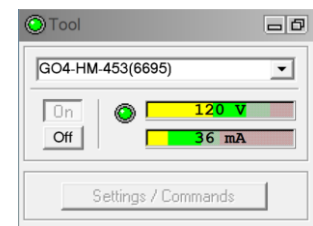

Figure 4-1 Tool panel
2. Select the relevant QL40-HM-453 tool stack from the drop down list (**Figure 4-1**) in the Tool panel (if your tool stack is not listed, check that your tool configuration file is stored in the designated folder on your computer or create a new file using the Tool Stack Factory).
3. In the **Tool** panel switch on the tool (click **On** button). Verify that the voltage indicator shows a valid green level (shown as 120 V in **Figure 4-1**). The current indicator should also be green and greater than 10 mA (shown as 36 mA in **Figure 4-1**). The system goes through a short initialization sequence which sets the default parameters and communication settings held in the tool configuration file. The configuration returned by the tool is also checked during this procedure (Setup tool communication as explained in **Chapters 4.2 and 4.3**).